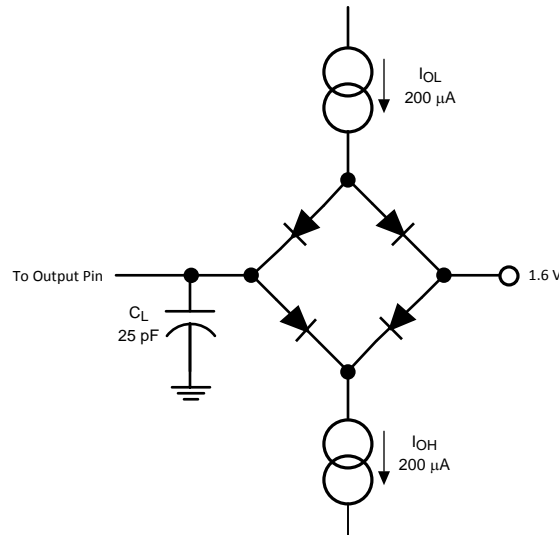

Figure 2. Timing Test Circuit
- (1) Measured with the timing test circuit shown in Figure 2 and defined as the time taken by the output signal to cross 1.0V.
- (2) Measured with the timing test circuit shown in Figure 2 and defined as the time taken by the output signal to cross 1.0V or 2.0V.
- (3) t_{DIS} is derived from the time taken by the output to change by 0.5V with the timing test circuit shown in Figure 2. The measured number is then adjusted to remove the effects of charging or discharging the load capacitance. This means that t_{DIS} is the true bus relinquish time, independent of the bus loading.